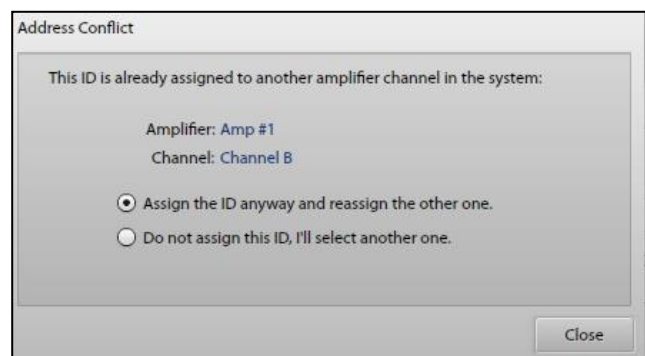

Figure 23. Amplifier Address Assignment Conflict
**ID**—Enter the ID of the physical amplifier channel for correct operation. Assigning the same ID to more than one amplifier channel displays the ADDRESS CONFLICT dialog box (see Figure 23). Choose the option that conforms to the physical amplifier installation and click CLOSE.